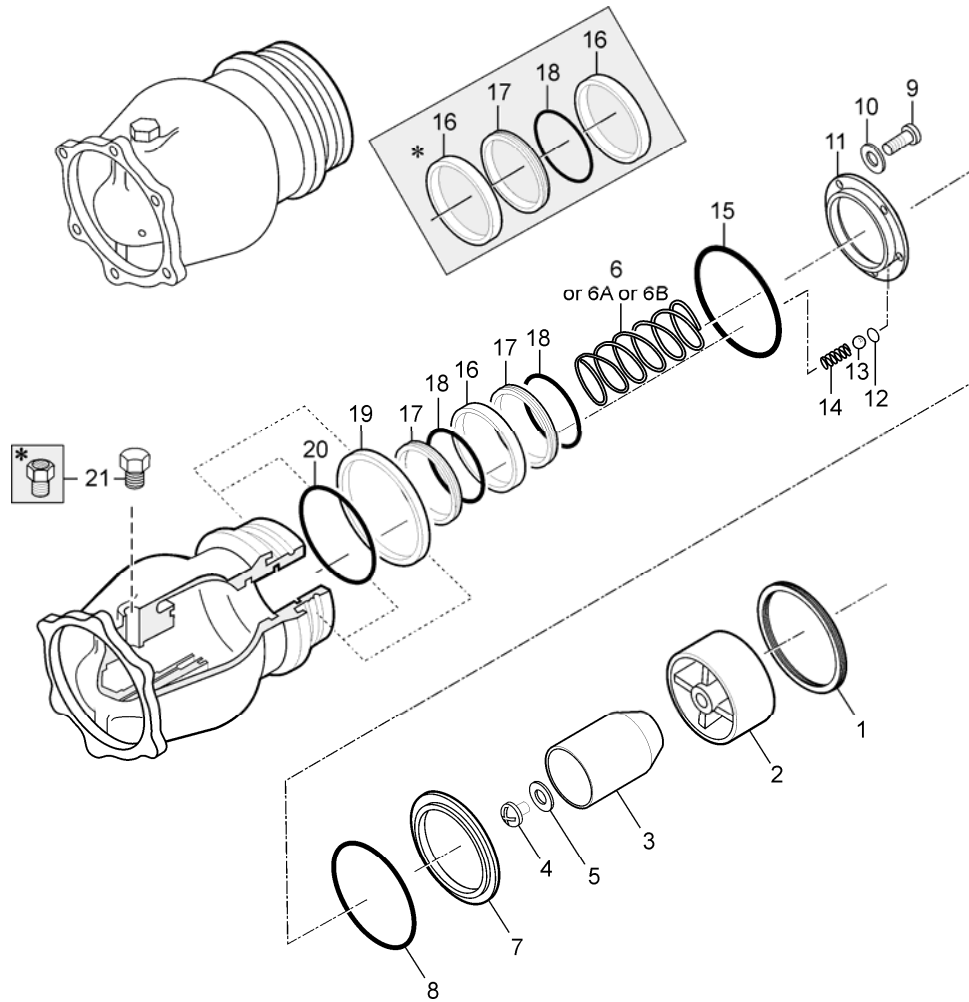

Figure 1
- A. Disassemble the unit in accordance with instructions for disassembly in the appropriate service manual. Note: Do not disassemble the piston assembly (items 2-5) unless it is necessary to replace one of the parts or the assembly is loose. Discard the existing parts listed below (see Figure 1).
- 4. The existing units will have two spacers, item 16, one item 17 and 18. Discard all of these existing parts. The kit provides a new plastic spacer (16) which has a thicker wall for better seal support. There are two sets of Seals (17) and O-rings (18) provided in the kit.
- C. Refer to Figure 1 of this document for re-assembly noting the following:
- The two Seals (17) and O-rings (18) are assembled into the Body and the single Spacer (16) is placed between the pair of seal sets.
- If the Inner (3) and Outer Piston (2) were disassembled, two drops of Loctite 222, 242 or 271 shall be applied the threads of the Screw (4) prior to its being inserted into the assembly. (Be sure that the Loctite has been thoroughly shaken before use). The Screw (4) shall be tightened to a torque limit of 18 to 20 in-lbs (0.207 to 0.230 kg-m).
- "Running-in" or lapping of the seals as described in the appropriate service manual may still be necessary as a remedy should the unit not respond properly to "creep" requirements (pressure at the outlet of the unit after closure or lock-up after one minute waiting period). Industry standards allow for the pressure to increase a maximum of 10 psi above the lock-up pressure. This creep is caused by either leakage past Seal (7), Quad-ring (12) or O-ring (15). The lapping of the seals will improve the sealing capability of Seal (7) and (17).
Refer to Figure 1 for item numbers.